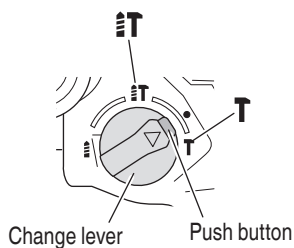

Fig. 20
- (1) Mount the bull point or cold chisel.
- (2) Press the push button and set the change lever to middle of ⋮T mark and T mark (Fig. 20).